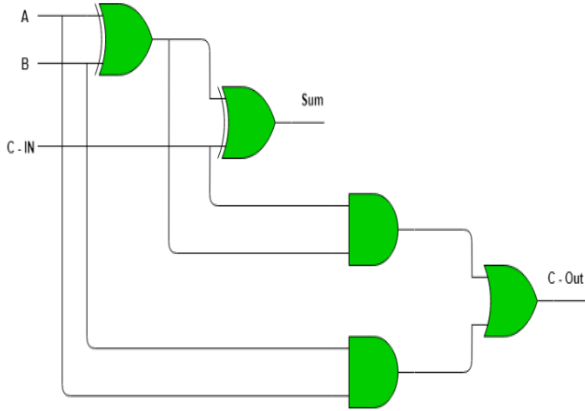

Figure 6
*Figure 6 image reference from geeksforgeeks